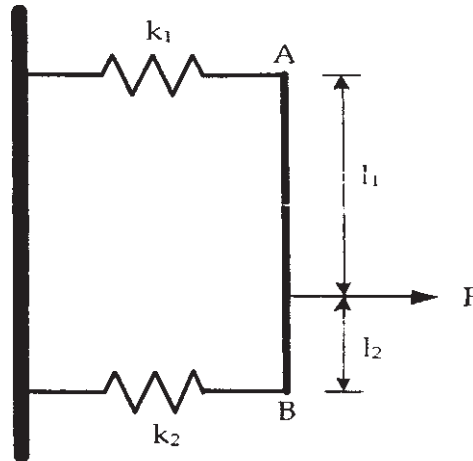

Fig. 3.b
Q3) a) Obtain the solution for the. mathematical model shown in Fig. 3.a. [10]**Fig. 3.a****P.T.O.**
- b) For the mathematical model shown in Fig. 3.b, determine the equivalent stiffness. [6]